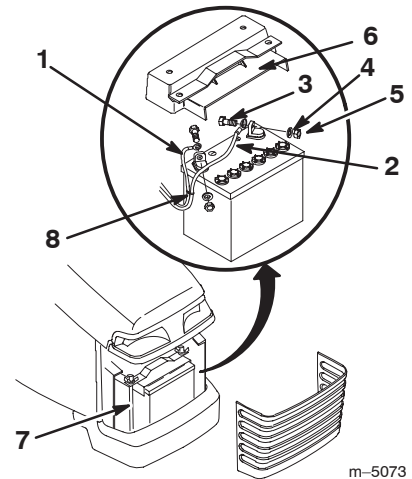

Figure 54
3. Remove the battery shield (Fig. 54).
4. Disconnect the negative (black) ground cable from the battery post (Fig. 54).
5. Disconnect the positive (red) cable from the battery post (Fig. 54).
- Place the battery onto the chassis (Fig. 54).
- Using the bolt, washer and locknut, connect the positive (red) cable to the positive (+) battery post (Fig. 54).
- Using the bolt, washer and locknut, connect the negative (black) cable to the negative (-) battery post (Fig. 54).